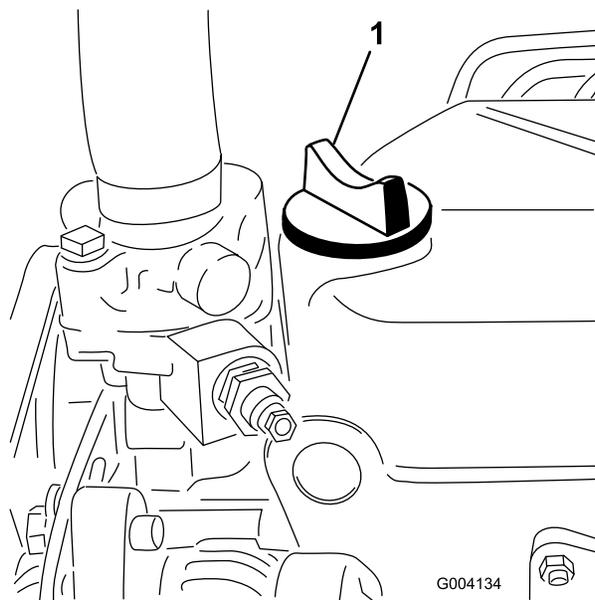

Figure 60
5. If the oil level is below the FULL mark, remove the fill cap (Figure 60) and add oil until level reaches the FULL mark on dipstick.